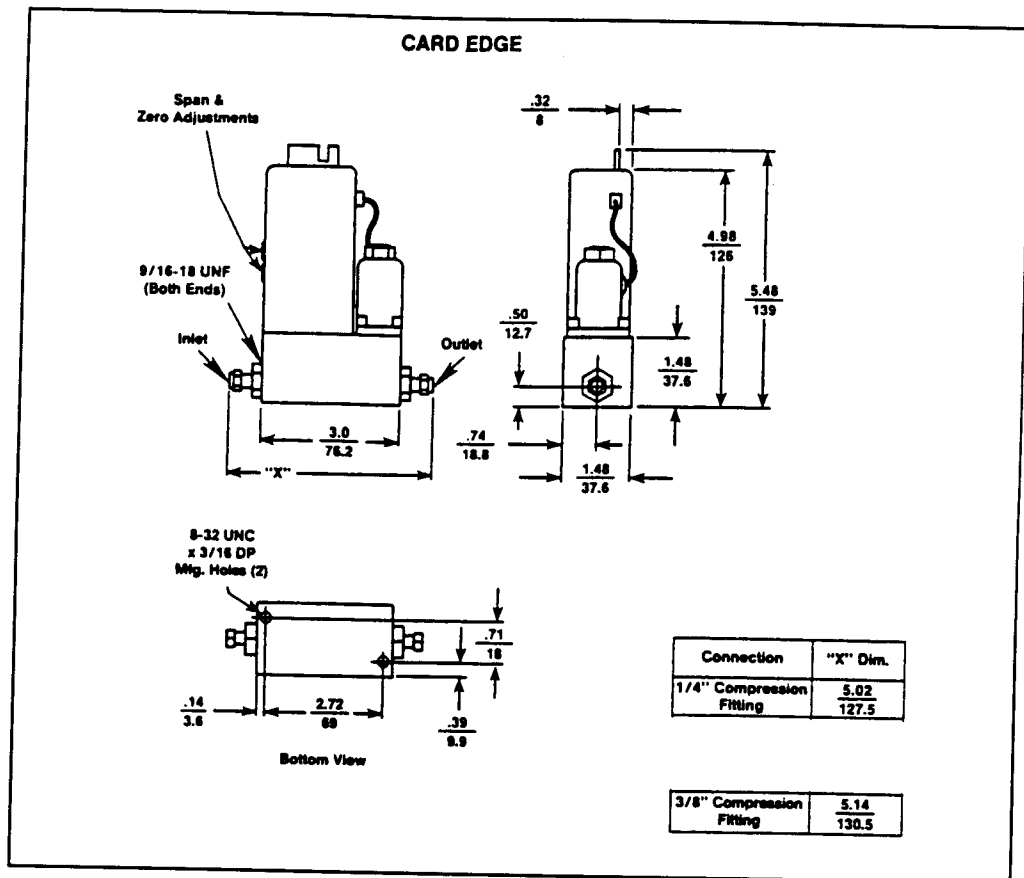

Figure 2-1. FMA-7000E Dimensions
Refer to Figure 2-1.
2.4 Installation (Refer to Figures 2-1 through 2-3)